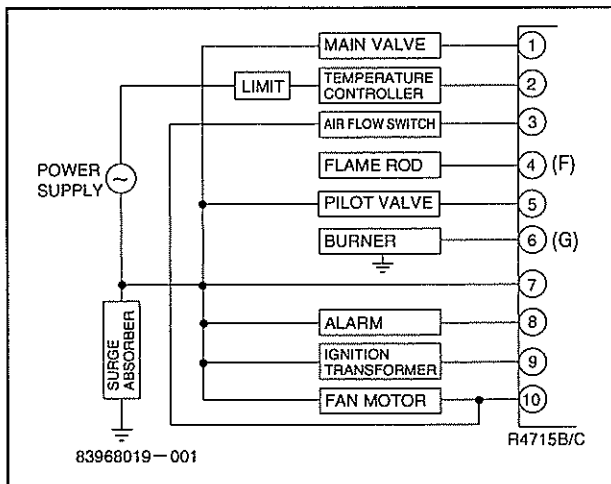

Fig. 3 Example of wiring to external equipment
- (1) Fig. 2 shows the layout of the terminals of the subbase, and Fig. 3 shows an example of wiring between the subbase and external equipment.